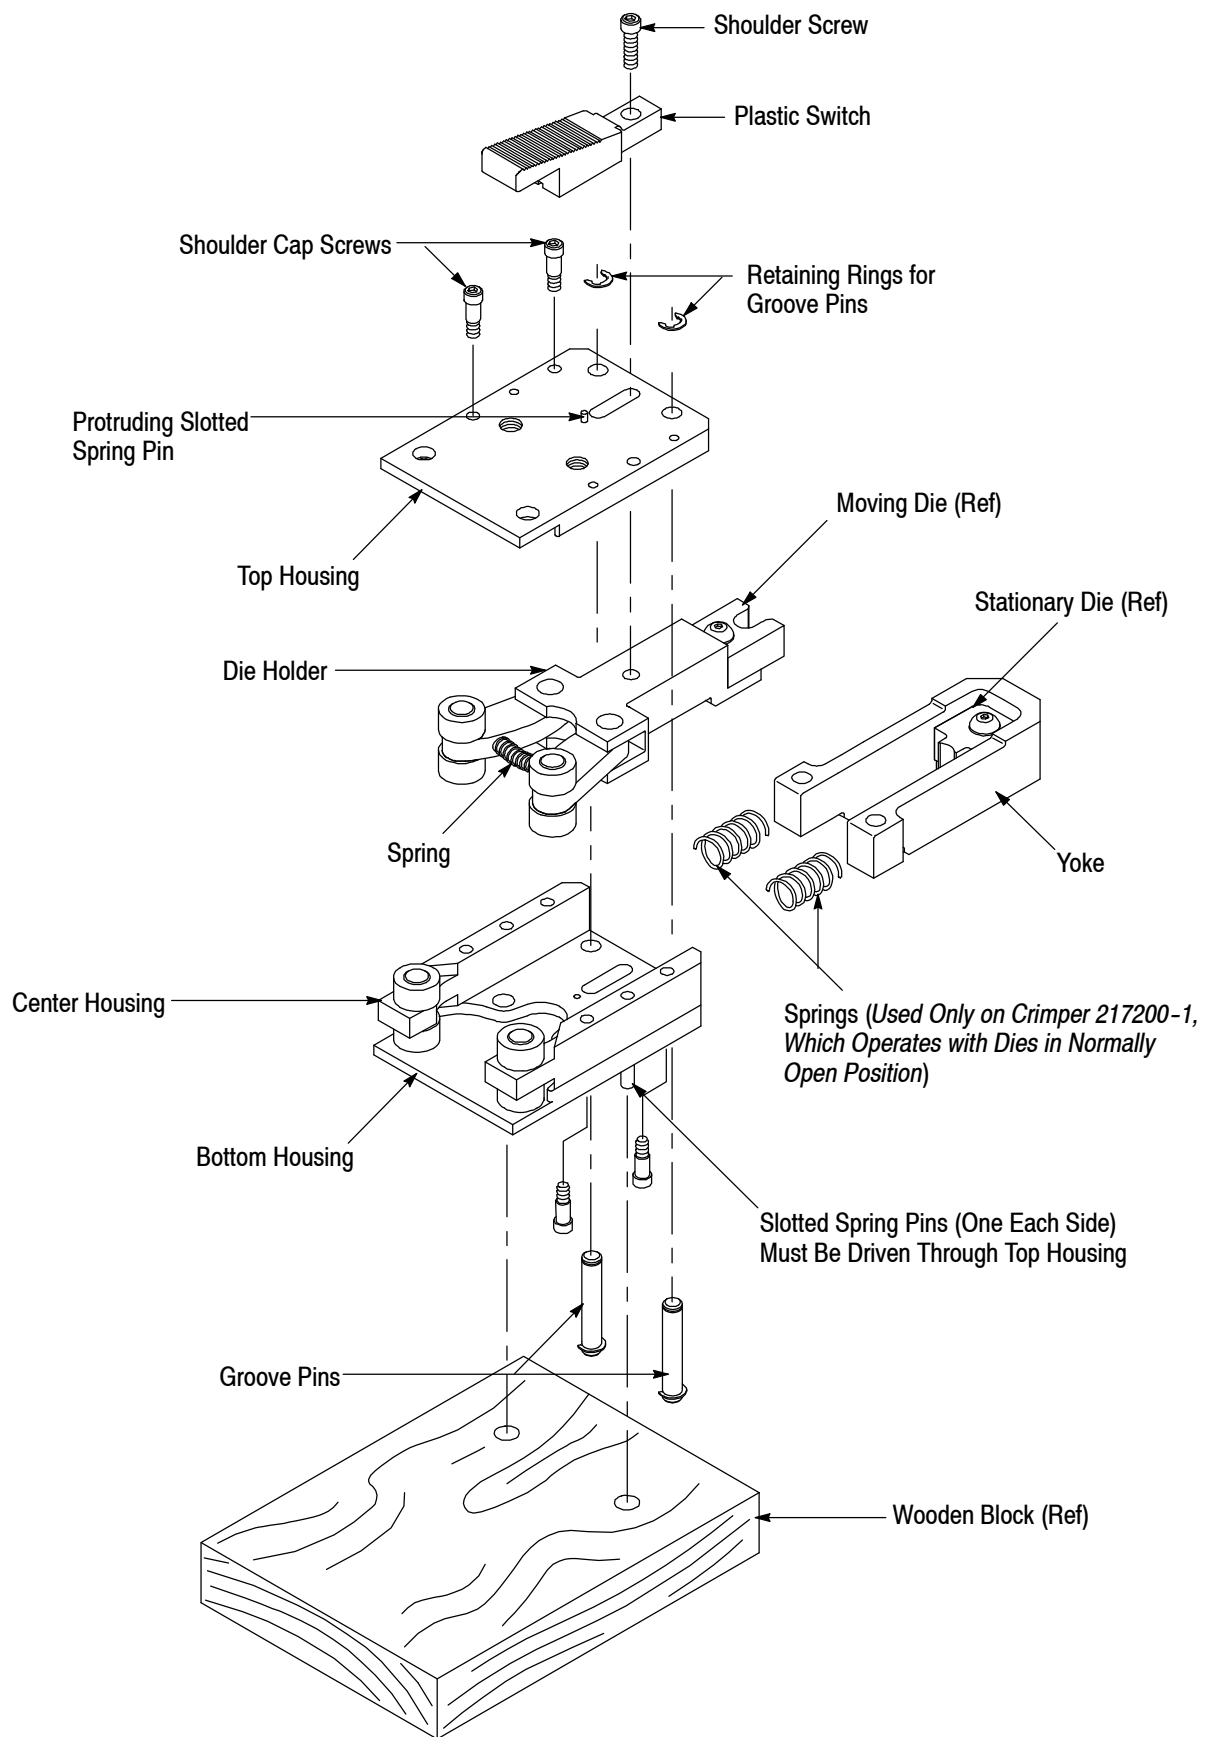

Figure 4
1. Lift the die holder assembly out from the center housing while being careful that the pins and rollers *do not* fall out of the links which are connected to the bottom of the die holder. Refer to Figure 4.
### 6.1. Disassembly (Refer to Figure 4)
## 6.2. Assembly (Refer to Figure 4)